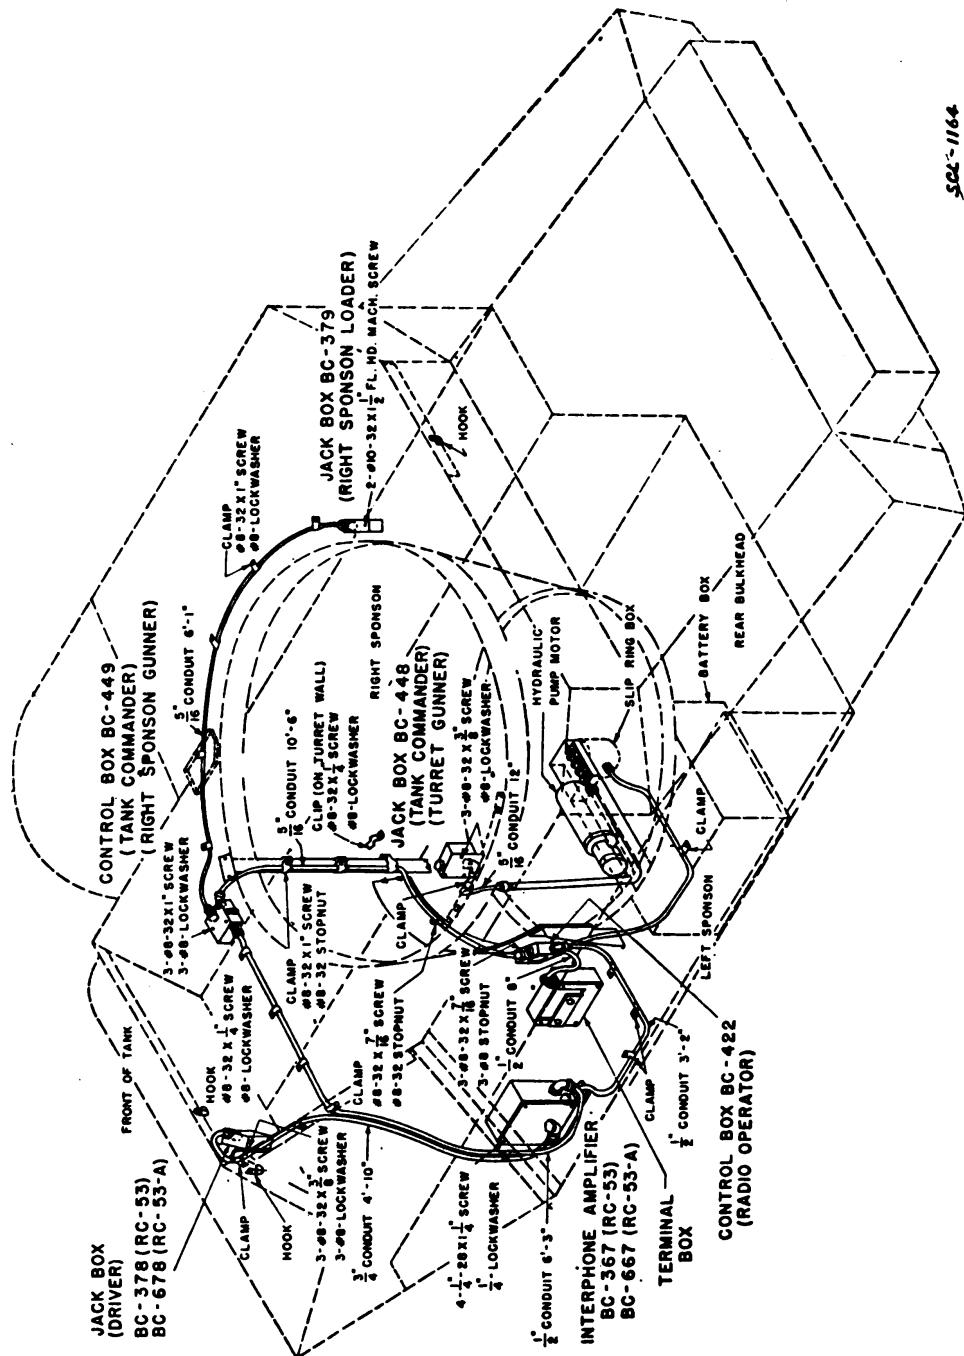

FIGURE 8.—Installation of telephone equipment RC-53 or RC-53-A in medium tank M3.
*b. Clamps, screws, etc.*—All clamps, screws, nuts, and lock washers needed to install the various components in this vehicle are listed on figure 8. Care should be taken to use the exact screw specified and all screws, clamps, etc., left over should be placed in a cloth bag and secured to a bracket. It is important to have the holes in the vehicle
*c. Initial procedure.— (1) Interphone equipment RC-53 or*
*d. Details of installation (fig. 8).*